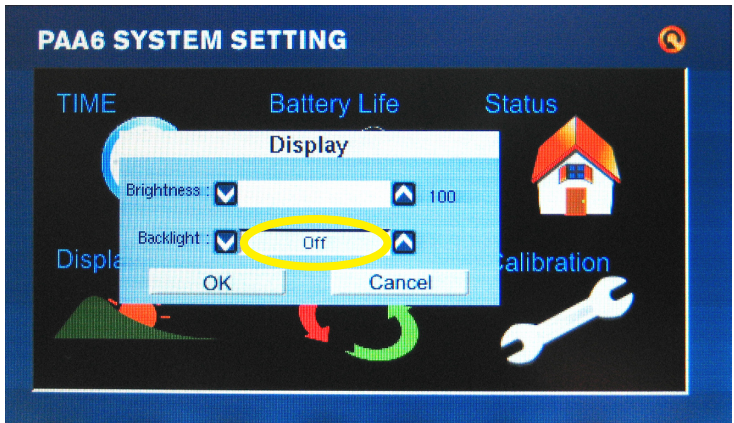

figure 11
- If you will be reading measurements off the screen without touching it, be sure to turn the backlight's sleep mode 'off', otherwise the screen will go dark after a few minutes (see figure 11). This is done through the System > Display menu.